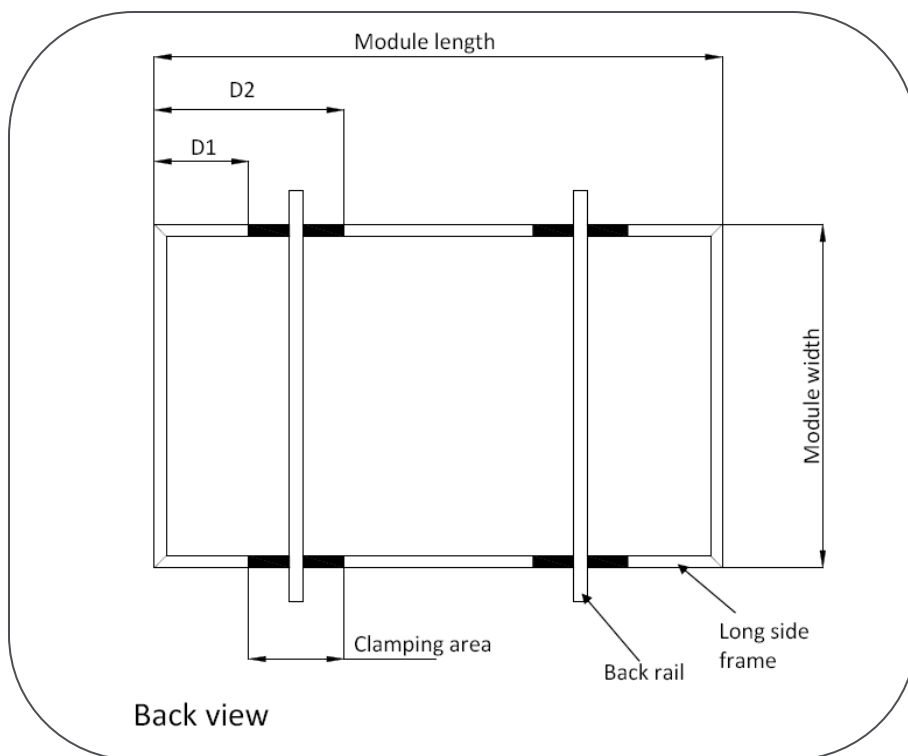

Figure 3 Effective mounting area (clamping)
- Clamping on longer side frame: The side frames are attached to the longer sides of the module. Figure 3 shows effective mounting area.